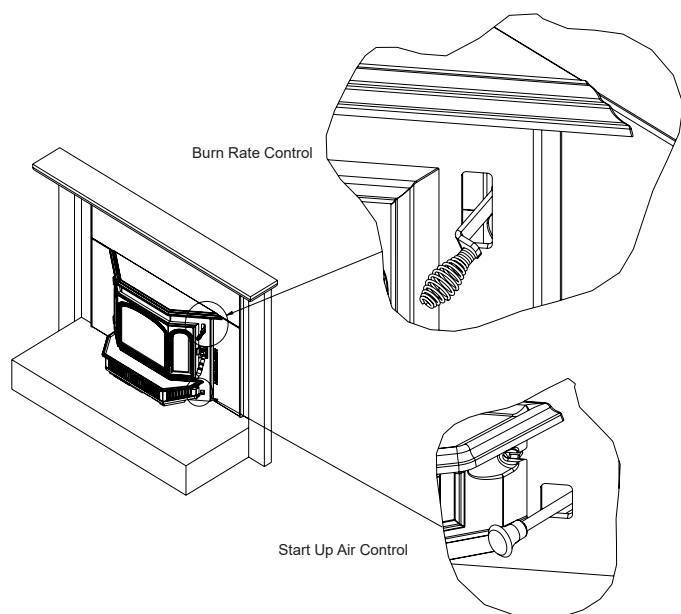

Figure 13.1 - Start-up and Burn Rate Air Controls
The next stage of burning, the secondary stage, is the period when the wood gives off flammable gases which burn above the fuel with bright flames. During this stage of burning it is very important that the flames be maintained and not allowed to go out. This will ensure the cleanest possible fire. If the flames tend to go out, it is set too low for your burning conditions. The air control located at the upper right hand corner is used to adjust for burn rates. This is called the Burn Rate Air Control (**Figure 13.1 on page 13**).
- Push the Start-Up Air Control all the way back until it stops and then pull forward to the front of the appliance until it stops (**Figure 13.1**).
- The fire is now controlled by the air supplied by the Burn Rate Air Control (**Figure 13.1**).
- Push the Start-Up Air Control 3/8 inch (9.5mm) back to allow rear air to enter the firebox (**Figure 13.1**).
- Then activate the ACC timer system by pushing the knob all the back toward the appliance to “HI” then pull forwards towards the front of the appliance until the knob stops (**Figure 13.1 on page 13**).